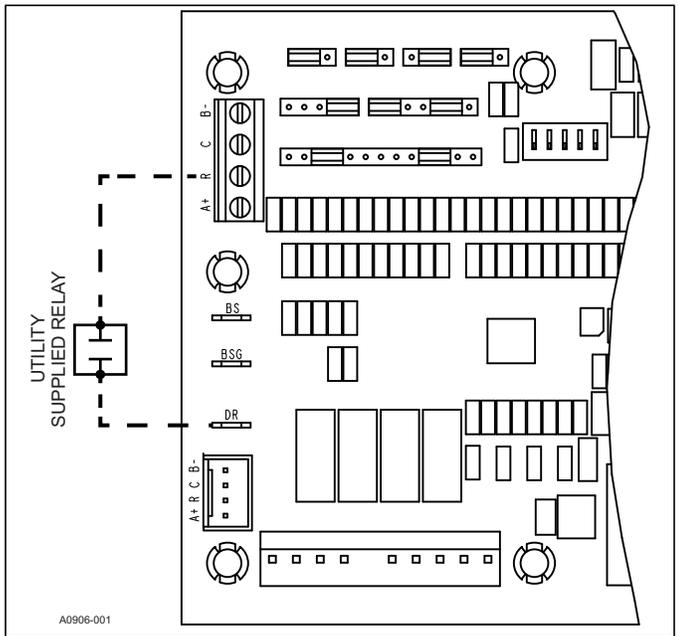

FIGURE 13: Demand Response Wiring
The main outdoor control has a conventional 24VAC input (DR) for utility demand response signals. When a 24VAC signal is present on the DR input with a **communicating system**, the HX™ thermostat will adjust the indoor temperature setpoint by the installer selected setting. For further details on available settings, please refer to the HX™ thermostat installation and operation manual. With a **non-communicating system**, a 24VAC signal on the DR terminal will not allow the system to run in second stage, cooling operation only. The DR input terminal location can be found in Figure 13.